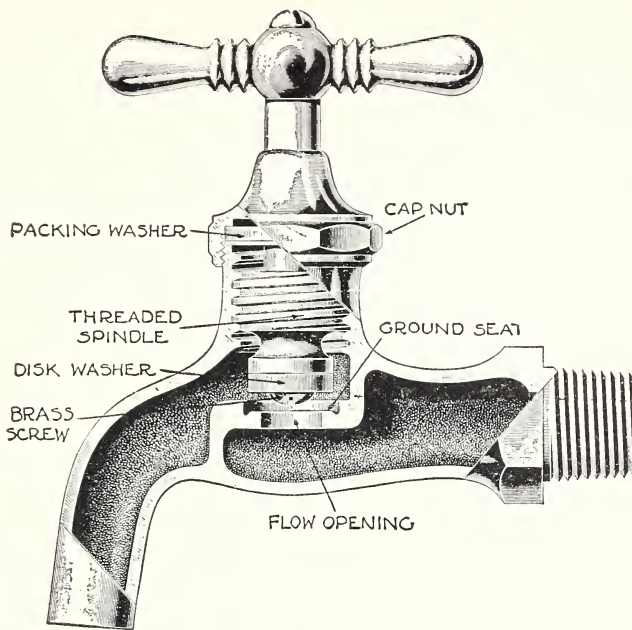

FIGURE 43.—Cross section of compression-type faucet.
*Compression.*—In the ordinary compression-type faucet illustrated in figure 43, the flow of water is regulated by turning a lever, T, or four-ball handle which is attached to a threaded spindle. When the spindle is turned down, the washer or disk attached to its lower end is pressed tightly against the smoothly finished ring or “ground seat” which surrounds the “flow opening,” thus shutting off the flow of water. If the washer and the seat do not make a firm contact at all points, water will leak through and drip from the faucet. A leak usually results from a worn-out washer. If washers wear out rapidly, it may be because a poor grade of washer is being used, because the ground seat has become sharp and rough as a result of corrosion, or because the seat has become scratched or worn by grit.